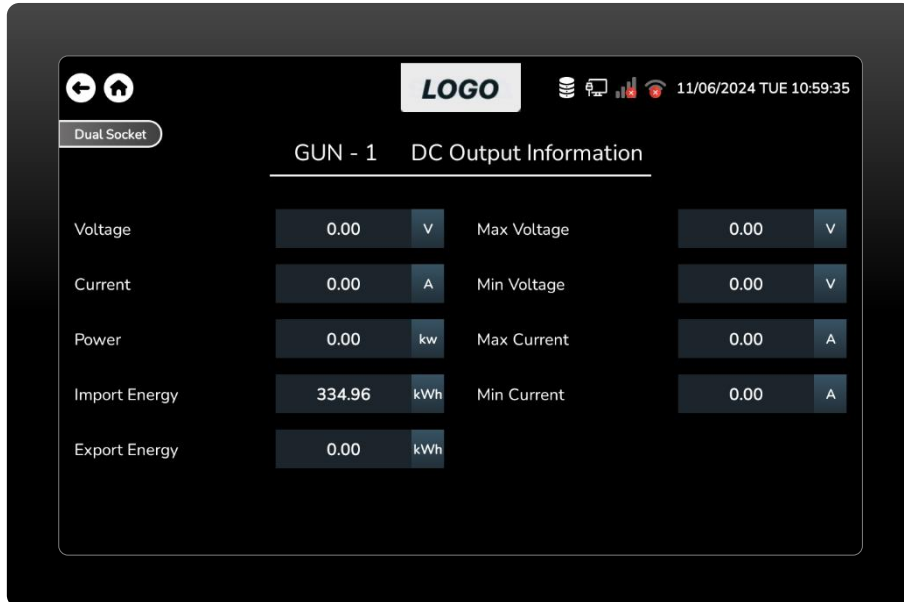

Figure 27 GUN-1 DC Output Information.
- This is the DC meter information screen. The user can view information such as voltage, maximum and lowest voltage, current, maximum and minimum current, power, import and export energy. (Figure 27)